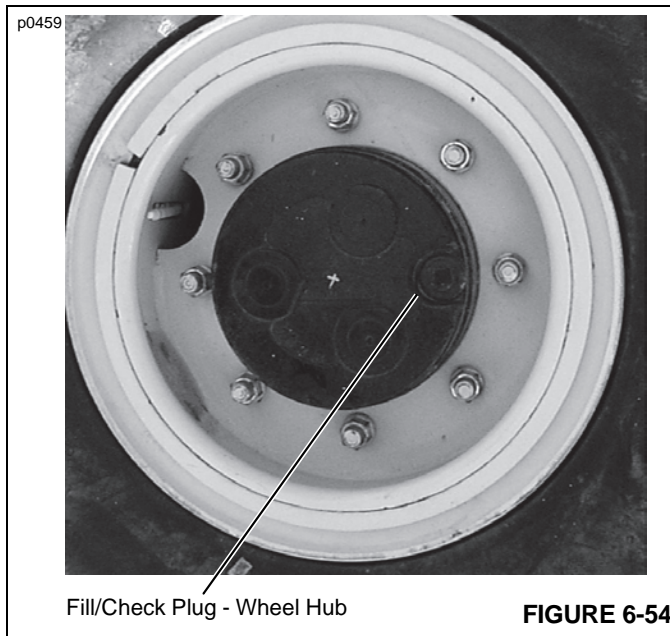

FIGURE 6-54
1. Position the wheel so that the fill/check plug is horizontal with the ground (Figure 6-54).